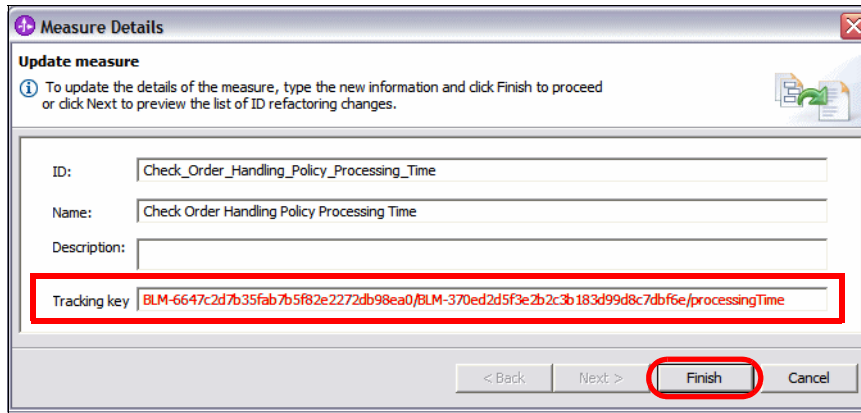

Figure 12-70 Copying the tracking key from another model
- ▶ Click *Details* and paste the tracking key into the measure. Click *Finish* to save the tracking key (Figure 12-70).